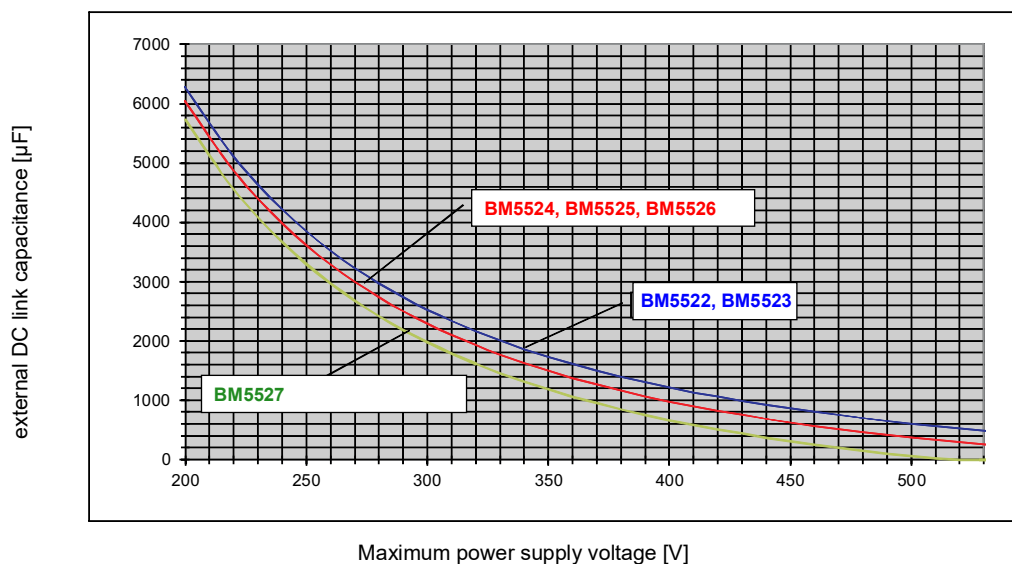

Figure 36: Maximum external DC link capacitance BM552X universal units
- 9) The specified value is only valid if there is no additional DC link capacitance connected to the DC link terminals. Refer to ►Power on switching frequency / DC link charging◄ on page 231 and ►Figure 36◄ on page 66.